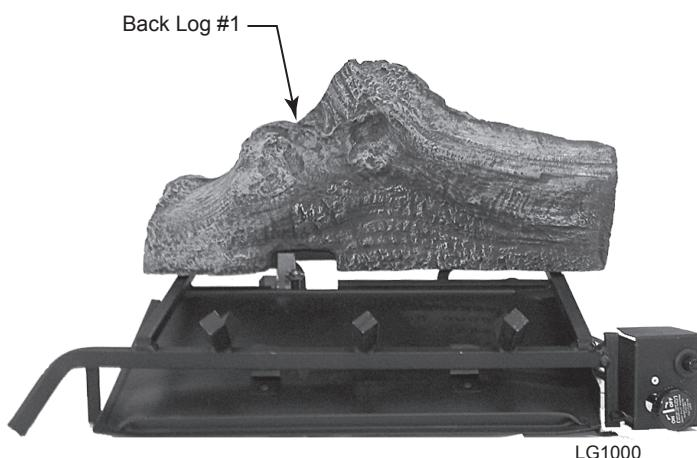

**Figure 38**
7. Place small front log (#7) between center crossover log and top left log. *Figure 38*